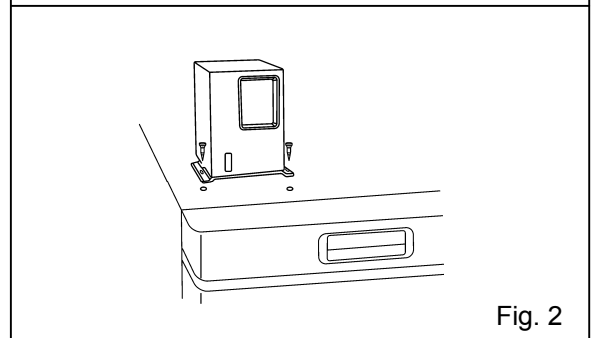

Fig. 2
2. Remove 2 (outside) of 4 screws on the front left of the top panel. Fix the temperature recorder to the top panel by using the 2 removed screws. [Fig. 2]
2. Attach the temperature recorder (MTR-0621LH) to the recorder fixing (MPR-S30) by referring to the instruction manual enclosed with the recorder fixing. [Fig. 2]
2. Attach the temperature recorder (MTR-4015LH) to the recorder fixing (MPR-S30) by referring to the instruction manual enclosed with the recorder fixing. [Fig. 2]
2. Attach the temperature recorder (MTR-G3504A or MTR-G3504C) to the recorder fixing (MPR-S7) by referring to the instruction manual enclosed with the recorder fixture. [Fig. 2]